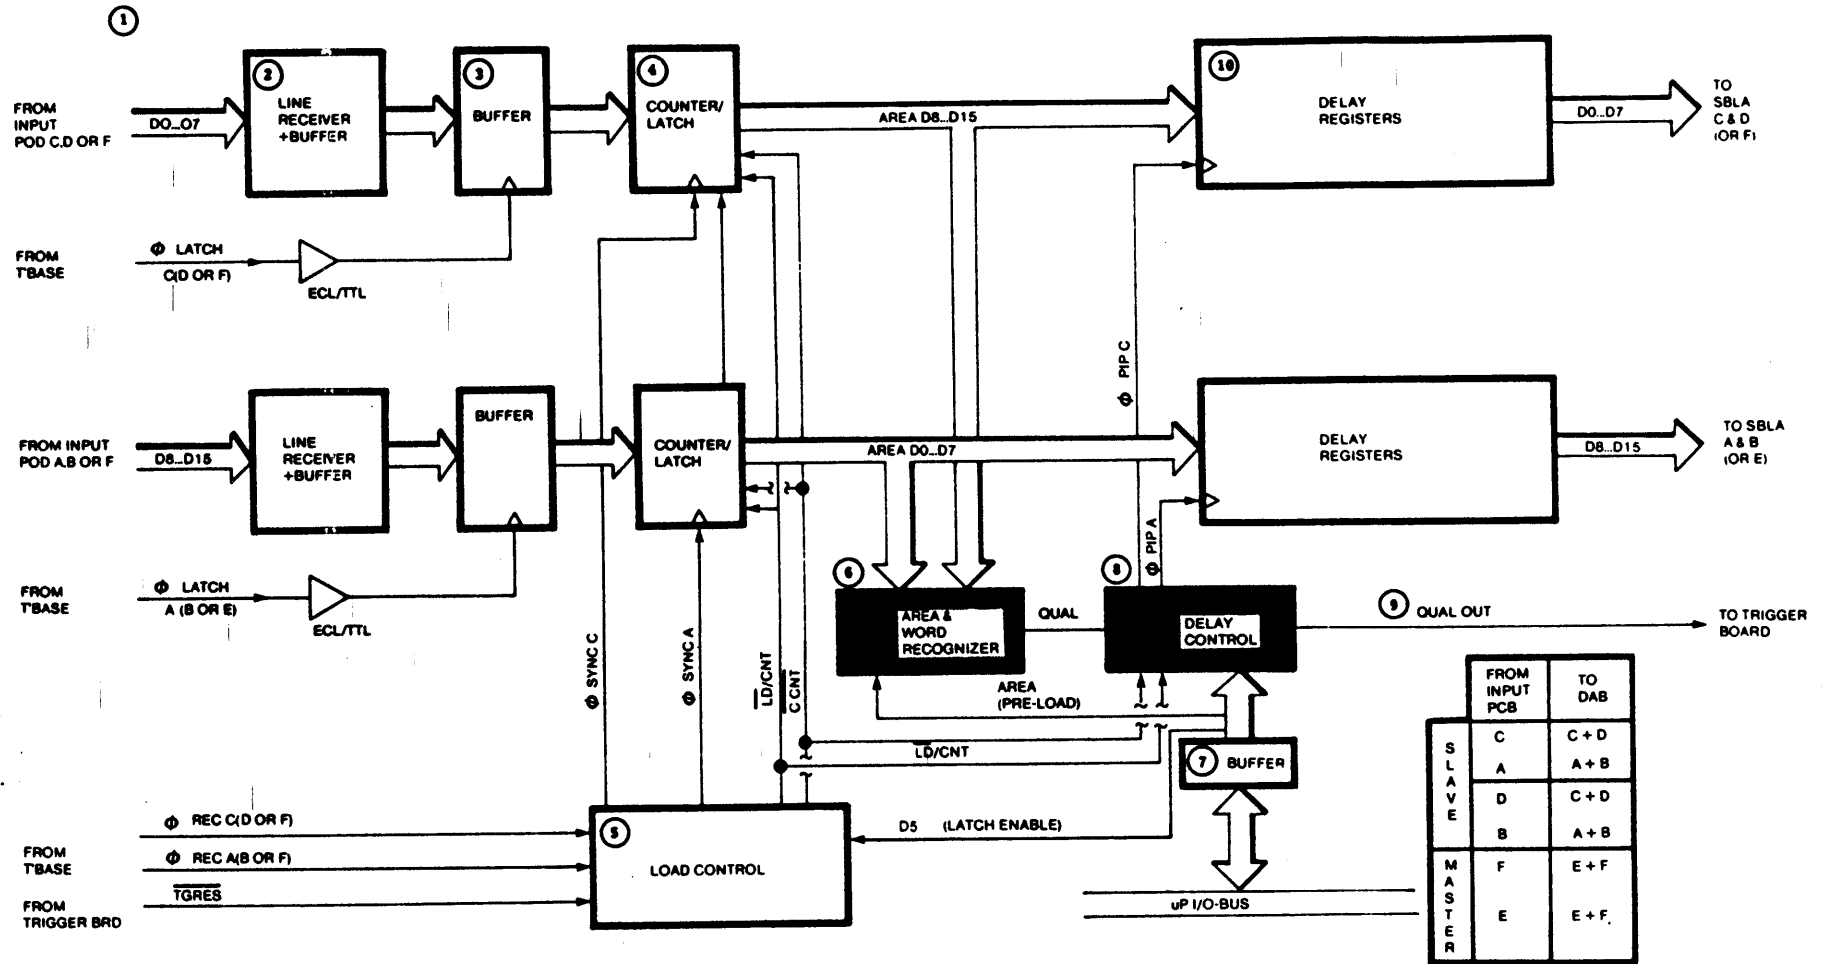

Figure 3-5. Master Area Trace PCB Functional Block
Each Slave Extended Area Trace PCB has eight dual 8-bit shift registers (labeled "Delay Registers" in Figure 3-5), which delay the data coming out of the Input Latches by 8 recording clock cycles. Thus, all Input PCBs must be replaced because they must all equally postpone the input data. This delay makes the data available for recording after the specified trace area has been identified by the Master Extended Area Trace PCB. The Slave Extended Area Trace PCBs have elements of the Standard Input PCB and the Master Extended Area Trace PCB. Simply put, they must also perform as Standard Input PCBs when the EATO is not selected.
3.3.2.1. Master EATO PCB Functional Block. Figure 3-5 shows a functional block diagram of the Master Extended Area Trace PCB. Shaded blocks indicate those parts of circuitry that the Slave Extended Area Trace PCBs do not share with the Master. The Master EATO PCB has two additional shift registers, which are used to control the delay of the qualification signal to both the Trigger and two Slave EATO PCBs. These shift registers, as with the Standard ATO PCB, are loaded with the number of samples before the recording begins. They are also instructed how to set the actual delay that achieves the specified number of samples. These parts of circuitry are represented in Figure 3-5 as circle numbers ⑥, ⑧, ⑨, and ⑩, respectively.